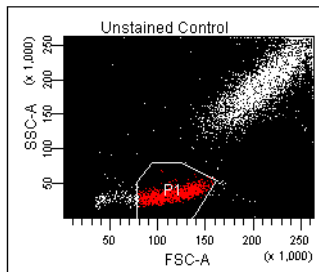

Figure 4-7 Voltages adjusted
- 3 Adjust the FSC and SSC voltages to appropriately display the scatter properties of the LWB sample (Figure 4-7).
Set the threshold to remove most of the debris without cutting off the lymphocyte population (Figure 4-7).
- 5 Adjust the P1 gate on the Unstained Control worksheet to surround only the lymphocyte population (Figure 4-7).